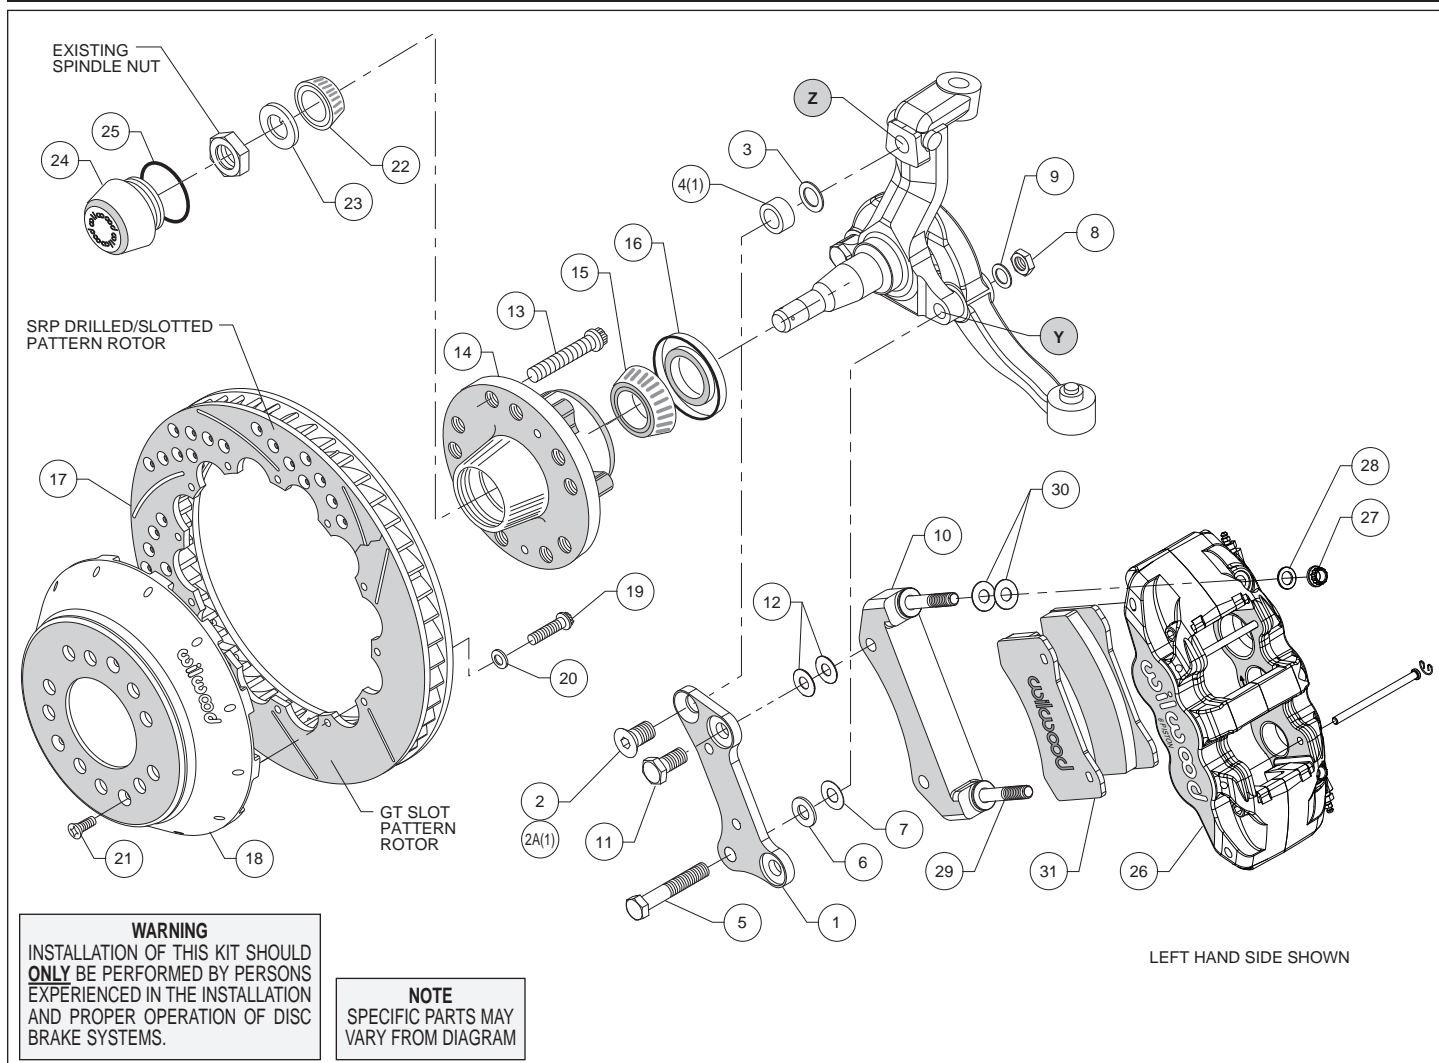
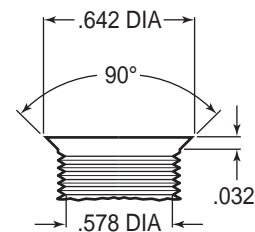
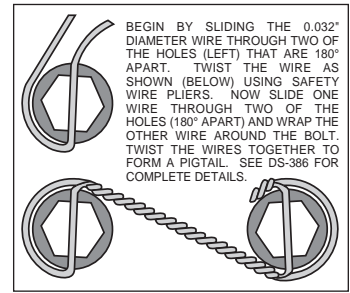

Figure 1. Typical Installation Configuration
Figure 3. Drill and Tap Detail
Figure 4. Safety Wire Diagram
Assembly Instructions (numbers in parenthesis refer to the parts list, and Figure 1 on the preceding pages):
- NOTE:** 1964-66 spindles may require the following modifications (reference Figures 1 and 3): Top anchor pin hole (Z) must be drilled and tapped to the dimensions as outlined in Figure 3. Bottom rear steering arm bolt hole (Y) in the spindle and steering arm must be enlarged to .50" by drilling.
- Install wheel studs (13) into the hub (14), Photo 1. Torque to 77 ft-lb. **NOTE:** There are two five lug patterns in the hub (5 x 4.50 and 5 x 4.75). Ensure the correct hub stud pattern is being used to fit the wheel application.
- Pack the large inner bearing cone (15) with high temperature disc brake bearing grease (available from your local auto parts store) and install into the backside of the hub (14), Photo 2.
- Install the grease seal (16) by pressing into the backside of the hub (14), flush with the end of the hub, Photo 2.
- Orient the rotor (17) and the hat (18) as shown in Figure 1 and Photo 3. Attach rotor to hat using bolts (19) and washers (20). Using an alternating sequence, apply red *Loctite*® 271 to the threads, and torque to 155 in-lbs. For an added measure of security, the bolts may be safety wired using standard 0.032 inch diameter stainless steel safety wire as shown in Figure 4. Please refer to Wilwood's data sheet DS-386 (available at www.wilwood.com/Pdf/DataSheets/ds386.pdf) for complete safety wire installation instructions.
- Attach caliper mounting bracket (1) to spindle face using lower bolt (5), and a .090" thick spacer (6) positioned between the bracket and the spindle face, as shown in Figure 1. Secure bolt on the backside of the steering arm with nut (8) and washer (9). Finger tighten. Install upper bolt (2) (for drum spindle) or bolt (2A) with spacer (4) between bracket and spindle (for disc brake spindle). Ensure that the flanged heads of the clinch nuts in the bracket are facing outboard. Temporarily tighten the mounting bolts and install the new hub (14) and rotor assembly (17/18). Check that the bracket is aligned parallel to the rotor, Photo 4. If
not, adjust by adding shim washers (3 and/or 7) between spacers (4 and/or 6) and the bracket, Figure 1. Once the bracket alignment is correct, remove the bolts one at a time, apply red *Loctite*® 271 to bolt threads, and torque upper bolt (2 or 2A) to 120 ft-lb. and lower nut (8) to 77 ft-lb.
- The radial mount caliper bracket (10) should initially be installed with clean dry threads on the mounting bolts. Orient bracket as shown in Figure 1, and install using bolts (11). Initially place two shims (12) on each bolt between the two brackets. Temporarily tighten the mounting bolts. Later, after the caliper alignment has been checked, the mount bolts will be secured using red *Loctite*® 271.
- Pack the small outer bearing cone (22) with high temperature disc brake bearing grease and install into hub (14). Final install the hub assembly onto the spindle. Secure using spindle washer (23), and OEM spindle nut, Photo 5. Adjust bearings per OEM specifications. Install new cotter pin (not included).
- Final install the hat/rotor (17/18) onto the hub (14) taking care to align the small countersunk holes in the hat with the small threaded holes in the hub. **NOTE:** The hat must fit flush against the hub face or excessive rotor run out may result. Install three flat head screws (21) through the small holes in the hat (18), Photo 7, and torque to 85 in-lb.
- NOTE:** This kit contains distinct right and left hand calipers that must be mounted in a specific direction, as described below. Lubricate the caliper mounting studs (29) with lightweight oil. Initially place two .030" thick shims (30), on each stud between the caliper and the bracket, as shown in Figure 1 and Photo 8. Mount the caliper (26) onto the bracket (10) using lock nuts (27) and washers (28), Figure 1. Ensure that the caliper is mounted so the largest pistons are at the rotor exit end of the caliper, in relation to the direction of rotor rotation. Temporarily tighten the lock nuts and view the rotor through the top opening of the caliper. The rotor should be centered in the caliper, Photo 9. If not, adjust by adding or subtracting shims (12) between the flat bracket and the radial mount bracket. Always use the same amount of shims on each of the two mounting bolts. Once the caliper alignment is correct, remove the radial mount bracket bolts one at a time, apply red *Loctite*® 271 to the threads, and torque to 77 ft-lb.
- Remove the two pad retaining pins from the caliper (26) by carefully popping out the pin retaining clips and sliding out the pins. Insert the brake pads (31) into the caliper from the bottom, Figure 1, Photo 10. With the friction material facing the rotor, secure the brake pads in place with the pad retaining pins and clips, Photo 11. Reinstall the caliper onto the caliper mounting bracket and temporarily tighten the lock nuts. Check that the top of the brake pad is flush with the outside diameter of the rotor, Photo 12. If not, adjust by adding or subtracting shims (30) between the caliper and the bracket. After the caliper pad height is set, torque the caliper lock nuts (27) to 47 ft-lb.